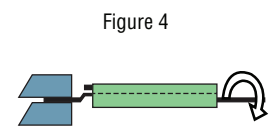

Figure 4
- d) Do not apply more than 2.0 cN-m twist torque to the breaker terminals (refer to Figure 4)